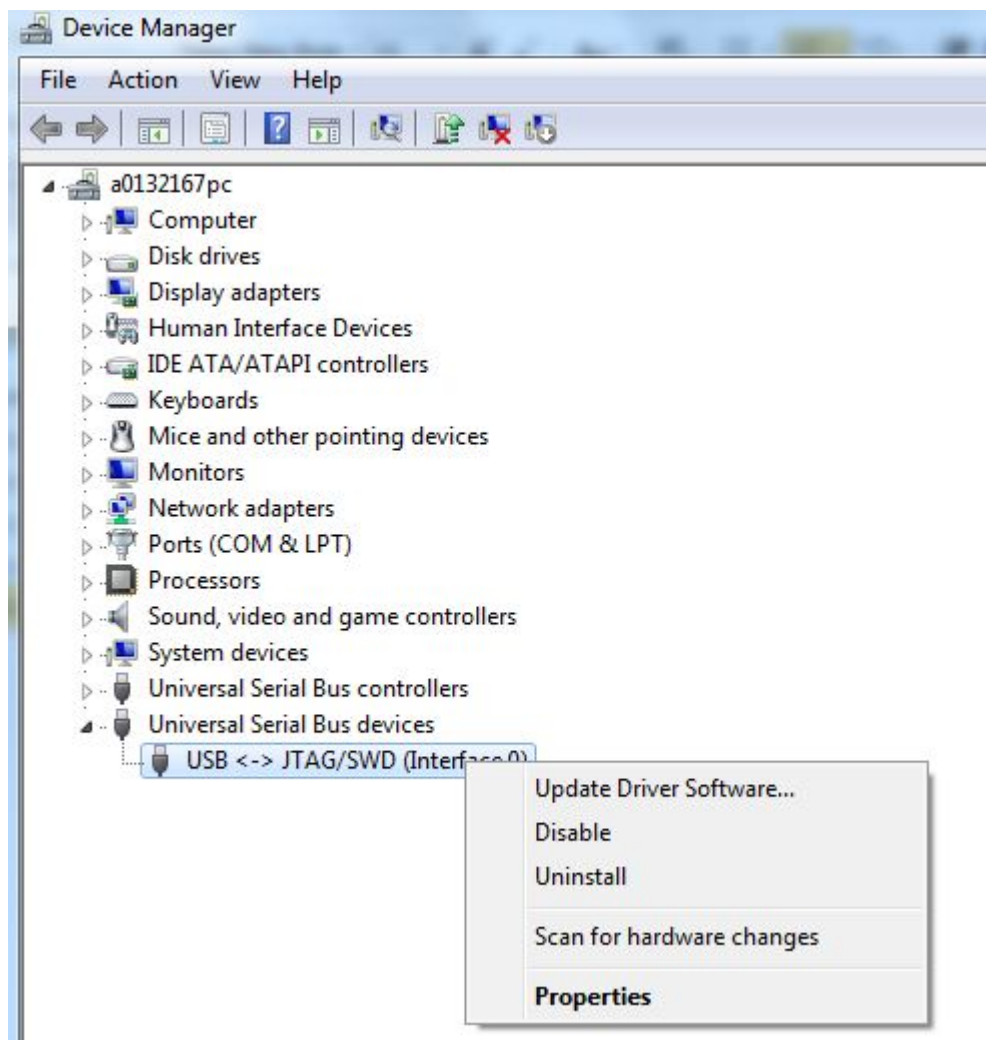

Figure 33. Device Manager
3. Select the <cc3200-sdk>\tools\ftdi folder for the driver update, as shown in Figure 33.